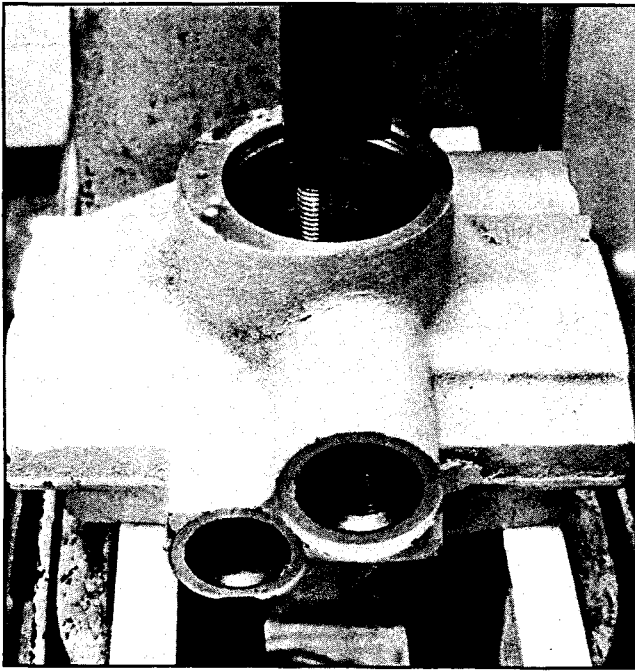

Figure 12. Bearing race removal from the valve block.
b. Remove plug (46), "O" ring (47), spring (48) and replenishing relief valve (49) from valve block (51).
c. Remove two locating pins (50) if damaged, be careful not to scratch the face of valve block or housing during removal.
d. Check bearing (10) for score marks, scuffing, peeling or spalling of the rollers and races. If the shaft bearing (10) is defective, remove the bearing race from the valve block. Use tool shown in Figure 7 and refer to Figure 12 for removal information.
e. Remove plug (52) and "O" Ring (53).